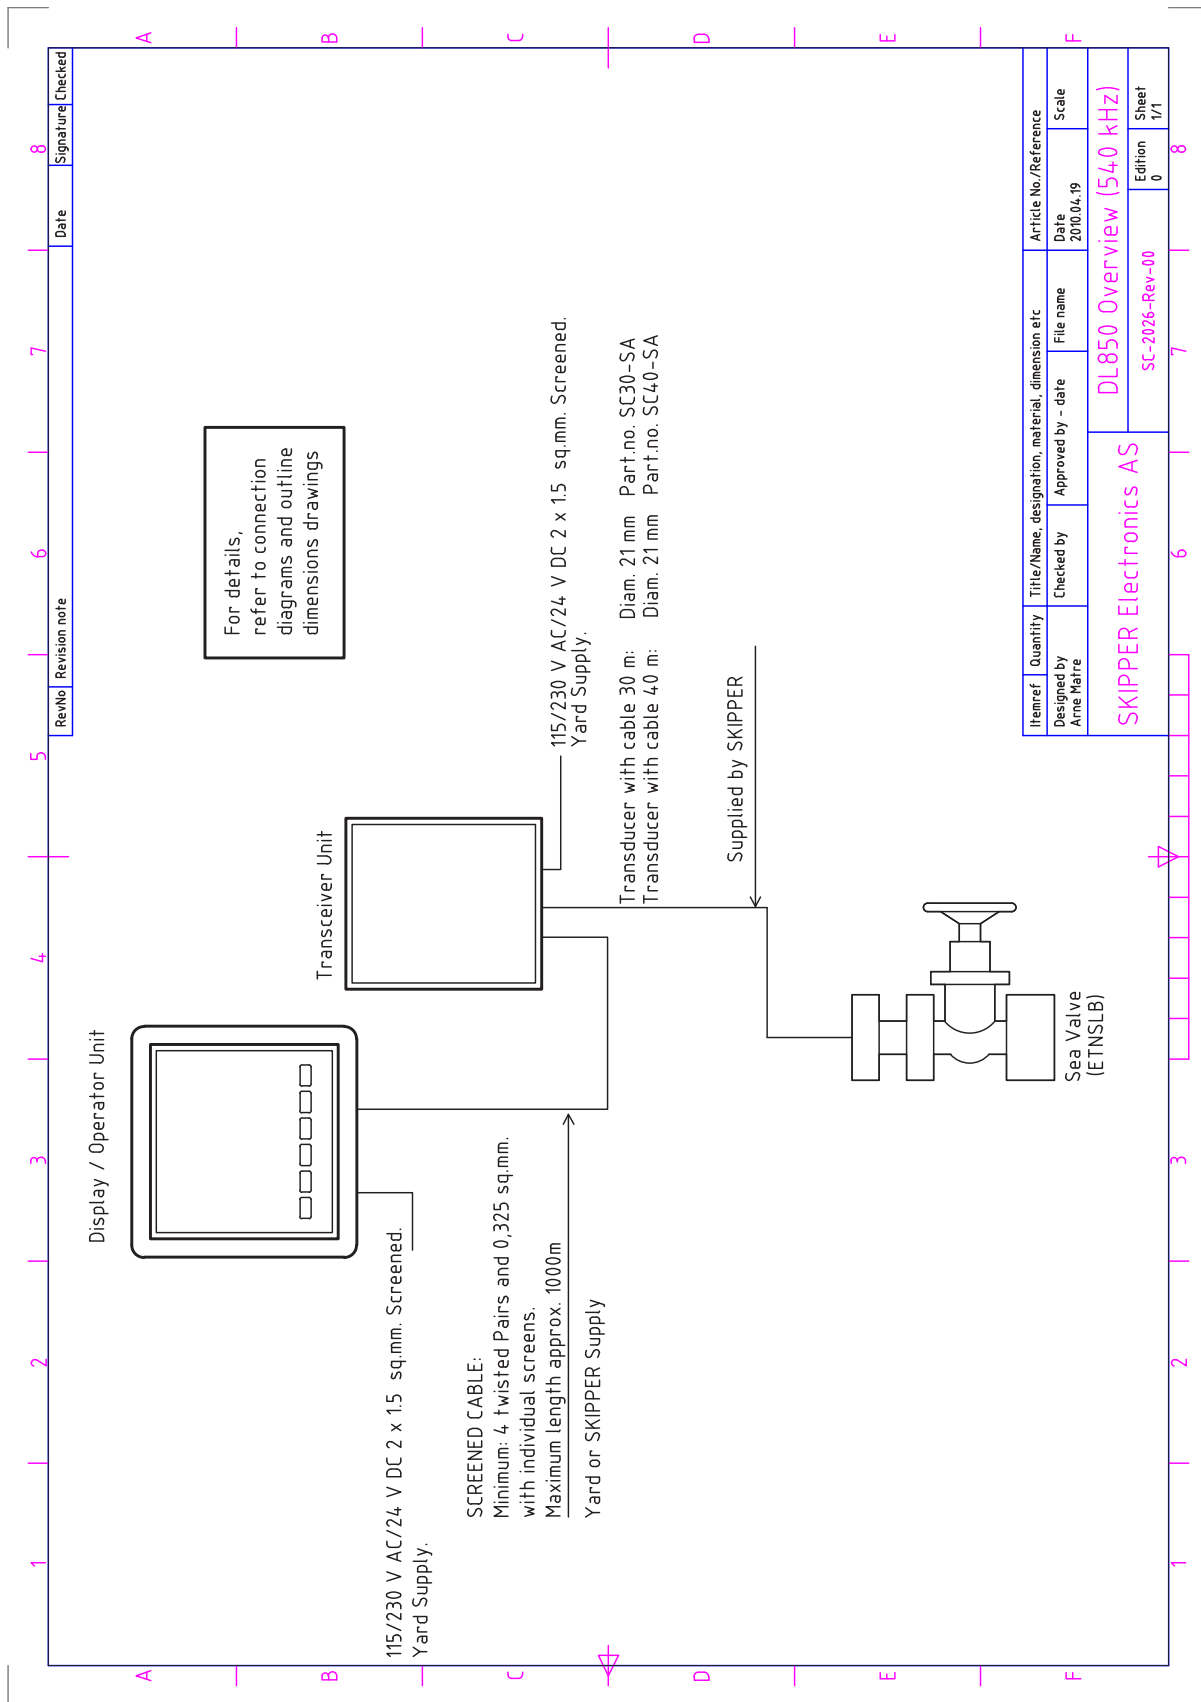

Fig. 10.3. System overview
- Fig. 10.3. System overview. See “DL 850 System Overview” on page 69.